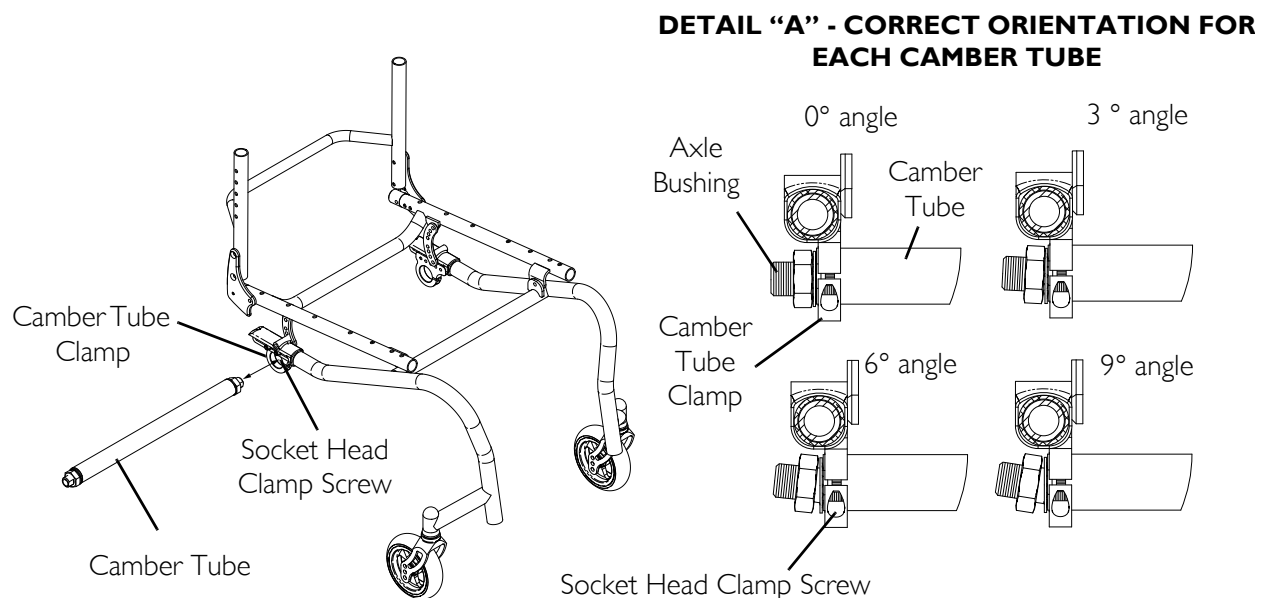
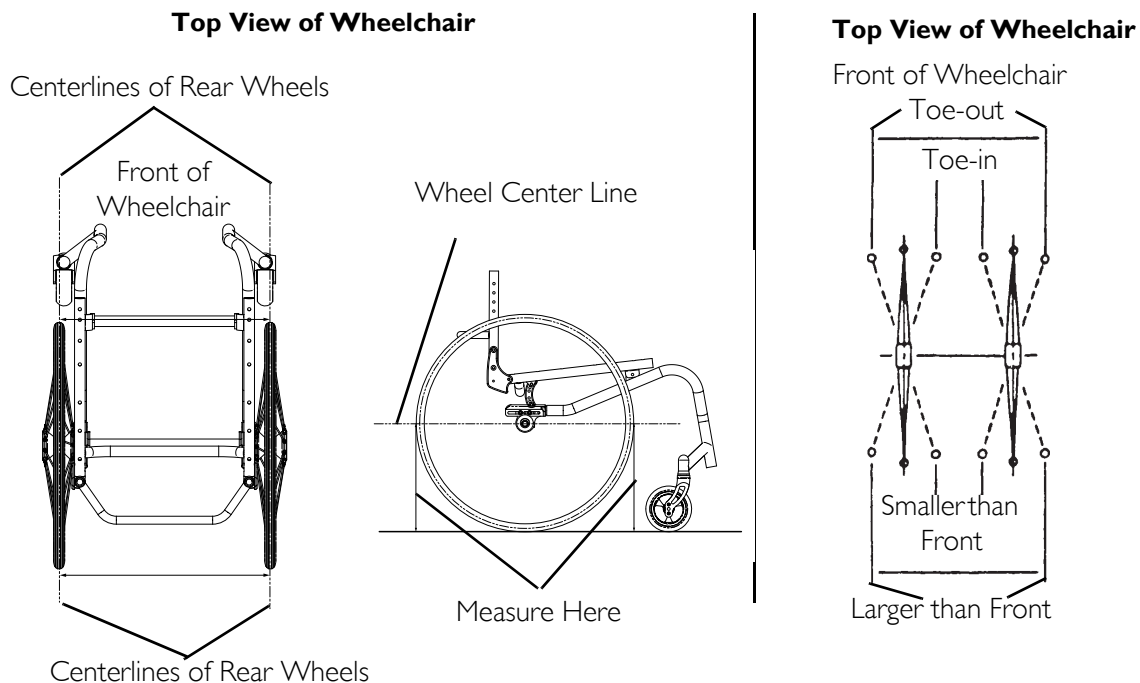

FIGURE 9.11 Adjusting Wheelbase Length, Adjusting Center of Gravity (COG)
FIGURE 9.13 Determining/Setting Toe In/Toe Out
NOTE: For this procedure, refer to FIGURE 9.11.
NOTE: For this procedure, refer to FIGURE 9.11 on page 54 and FIGURE 9.13.
2. Measure the distance between the centerlines at the rear and front of the rear wheels at approximately 12 inches (for 24-inch diameter wheels) from the ground/floor (FIGURE 9.13).
- If the back centerline measurement of the rear wheels is **SMALLER** than the front centerline measurement of the rear wheels, a **TOE-OUT** condition exists (FIGURE 9.13).
- If the back centerline measurement of the rear wheels is **LARGER** than the front centerline measurement of the rear wheels, a **TOE-IN** condition exists (FIGURE 9.13).
- A. Loosen both mounting socket head clamp screws (FIGURE 9.11).
- B. Rotate the camber tube until front and rear measurement are within $\frac{1}{8}$ -inch (FIGURE 9.11).
- C. Securely tighten both socket head clamp screws (FIGURE 9.11).